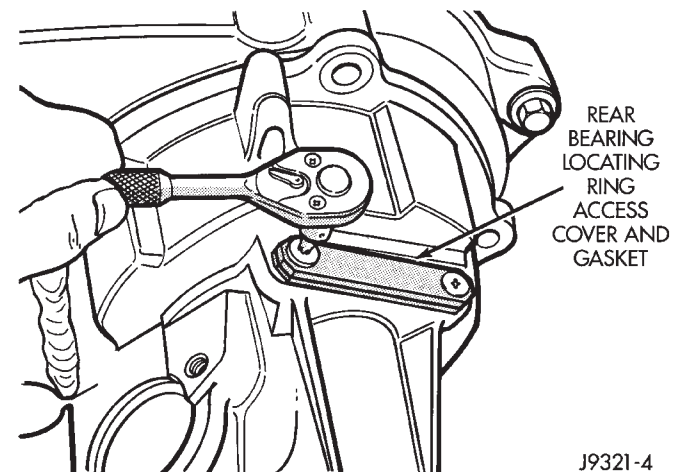

Fig. 4 Removing Locating Ring Access Cover And Gasket
- (5) Remove rear bearing locating ring access cover screws, cover and gasket (Fig. 4).